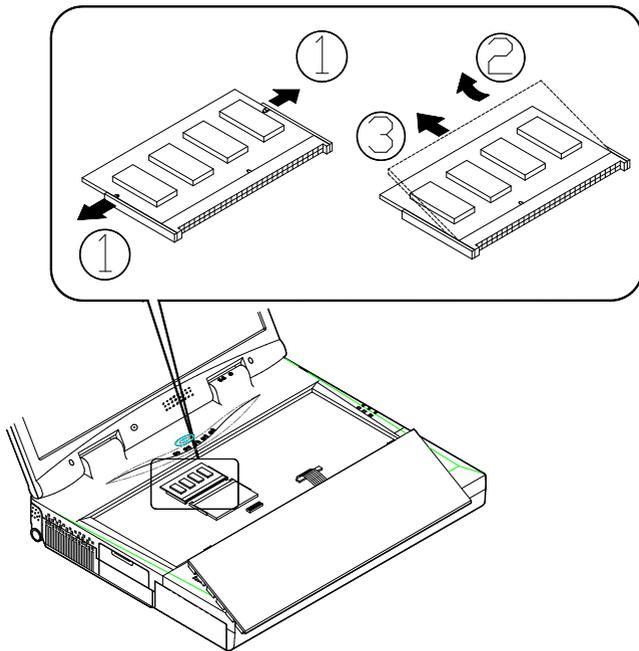

Figure 2-9
It is recommended to install the memory module in the order of Bank 0, Bank 1 (see Figure 2-9). Please refer to the table of DRAM combinations or consult your dealer for a proper installation.
4. Gently pull the two latches on both ends of the module outward (Step 1 of Figure 2-9). The module will pop up (Step 2 & 3 of Figure 2-9).